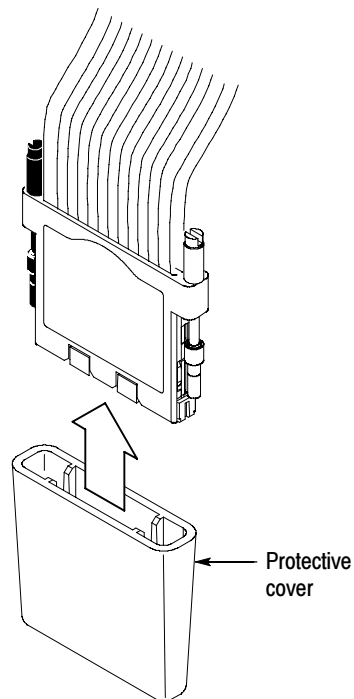

Figure 15: Protecting the probe heads
- Always store the probe head in the protective cover when not in use. See Figure 15 on page 20.
To protect the interface clip, it is important to properly store the probe heads when the probes are not in use. See Figure 15.